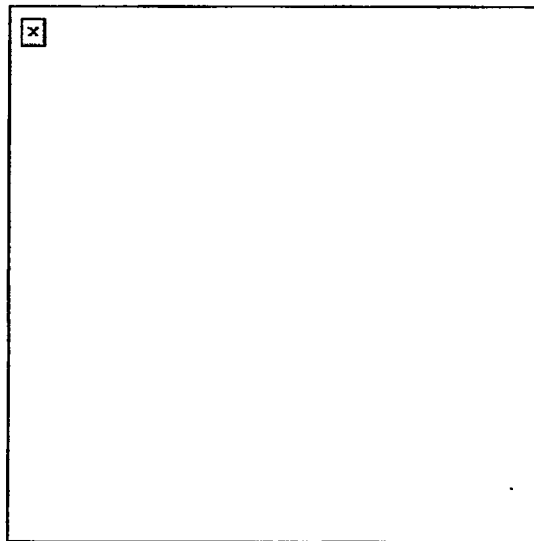

Figure 10. Traveling.
(3) Movement technique signals (Figures 10 through 14).